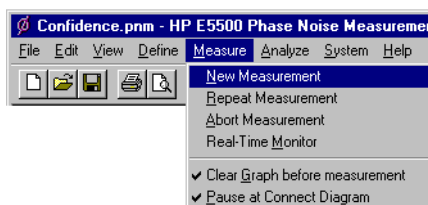

Figure 13-8 Selecting a New Measurement
- 1 From the **Measurement** menu, choose **New Measurement** See Figure 13-8.